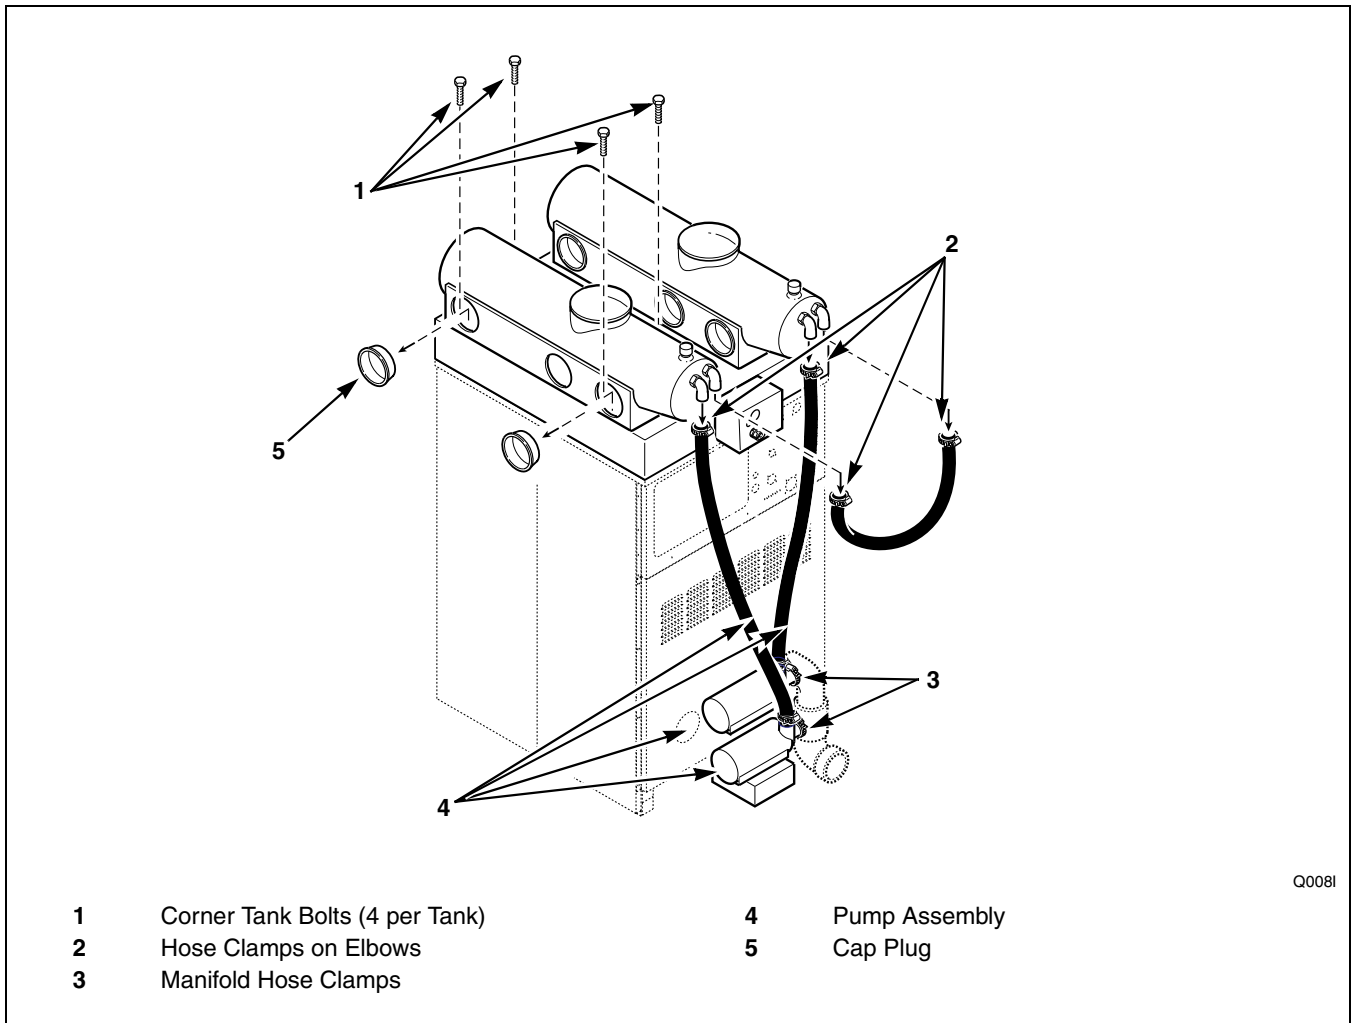

Figure 9
- c. Loosen the hoses clamps attached to the elbow at the rear of each tank and slide off the long black hoses that run from the tanks. Refer to *Figure 9*.
- e. Remove the four bolts from each tank located behind cap plug at each corner. Refer to *Figure 9*.
rear of the washer-extractor to the right of the pump assembly. Refer to *Figure 9*.
- c. Slide off the long black hoses that run from the water tanks. Refer to *Figure 9*.
- c. Slide on short black hose to the large tank elbow at the rear of the tank. Refer to *Figure 9*. Tighten hose clamp.